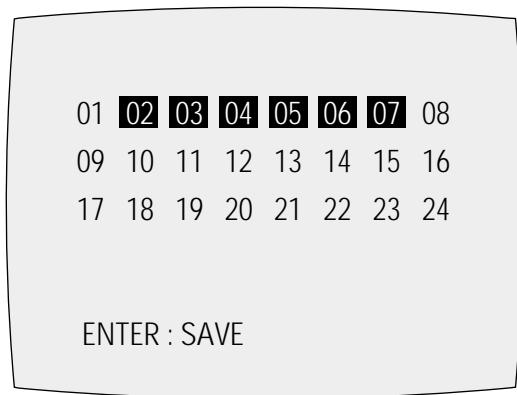

Fig. 5-14
- 2) Press the “PROG.” button of remote control about 5 seconds then option setting display is appeared. (See Fig. 5-14)
(If “PLAY” button is pressed, the selected number is changes reversed color. ; See Fig. 5-14)